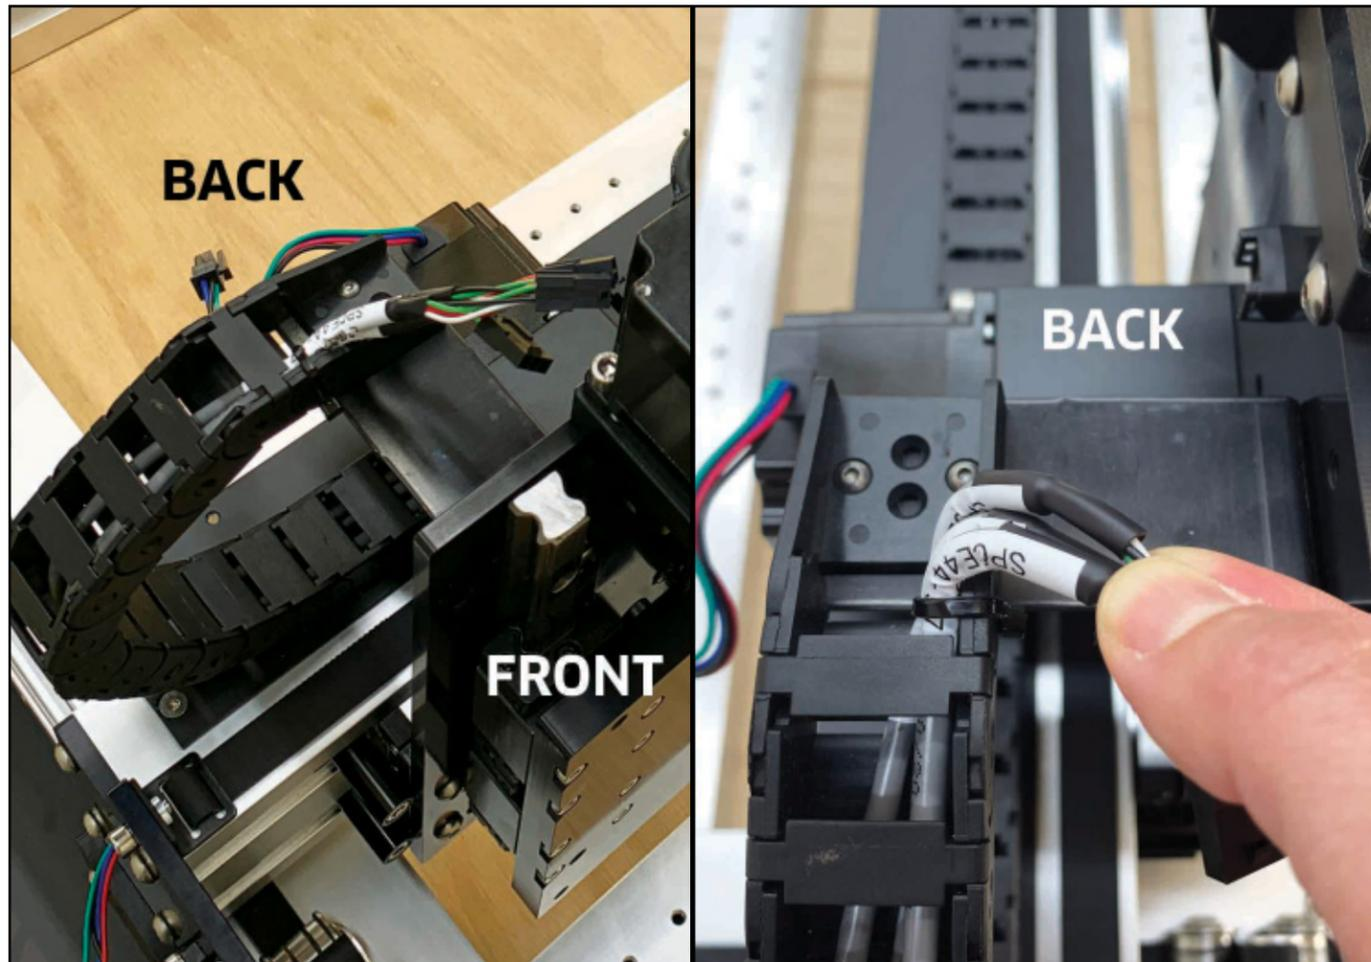

Figure 6-3
2. Use a 2mm hex key and two (2) M3×6mm BHCS to secure the drag chain to the head bracket. Fully tighten. See **Fig. 6-3**.